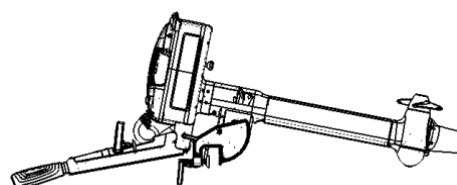

Figure3-12
1. Raise the outboard motor to the highest position at 89°, as shown in Figure 3-12.